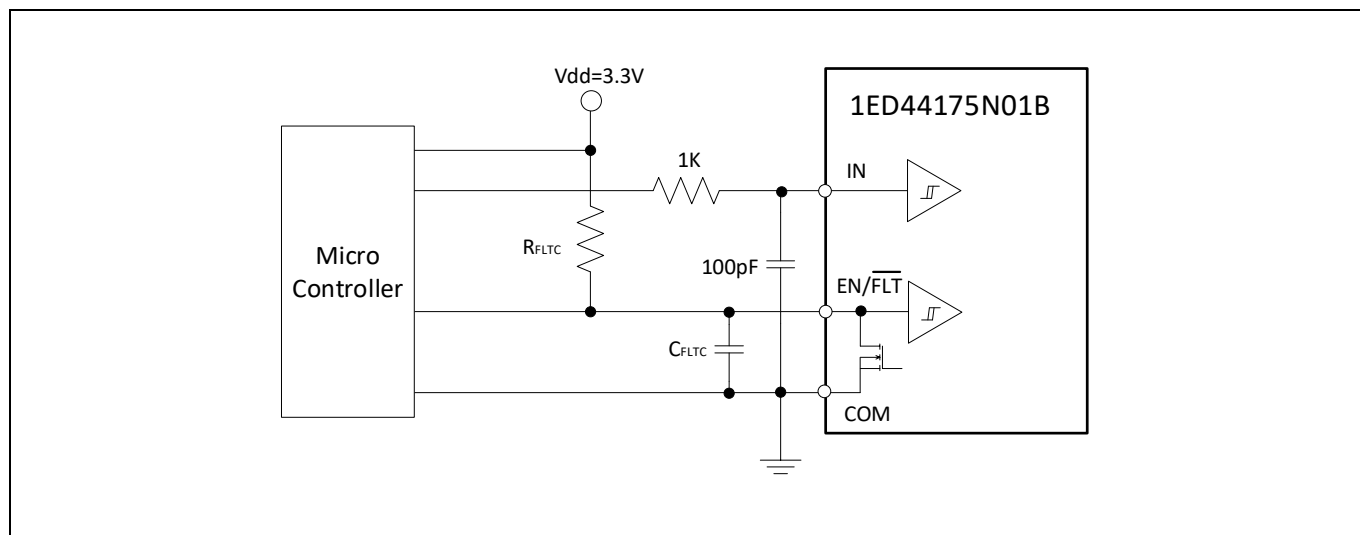
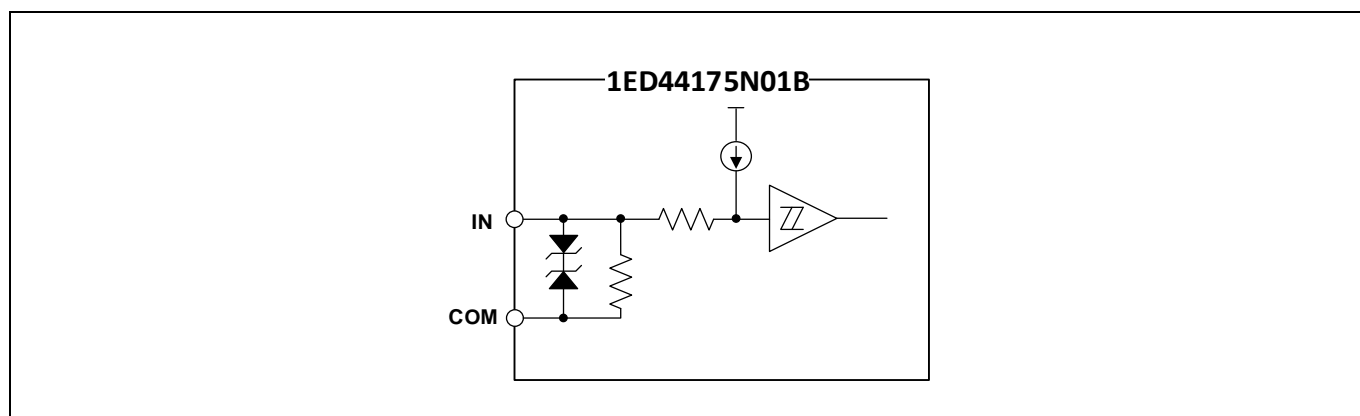

Figure 3 Recommended micro-controller I/O interface circuit
Figure 4 Simplified input structure diagram of 1ED44175N01B
- To prevent signal oscillations, an RC coupling is recommended as illustrated in Figure 3.
Figure 3 shows the I/O interface circuit between a micro-controller (μC) or digital signal processing (DSP) and the 1ED44175N01B. The 1ED44175N01B input logic is active-high. The $\text{EN}/\overline{\text{FLT}}$ output is an open-drain configuration. This signal should be pulled up to high by an external logic power supply with a pull-up resistor. RC (1 K Ω / 100 pF) is recommended for the “IN” pin to prevent input noise.
As shown in Figure 4, the 1ED44175N01B input signal section integrates a pull-down resistor. Therefore, when using an external filtering resistor between the micro-controller output and 1ED44175N01B input, pay attention to the signal voltage drop at the 1ED44175N01B input terminal. It should fulfill the logic "1" input voltage requirement. For instance, $R = 1$ k Ω and $C = 100$ pF are recommended for the parts shown in Figure 3.